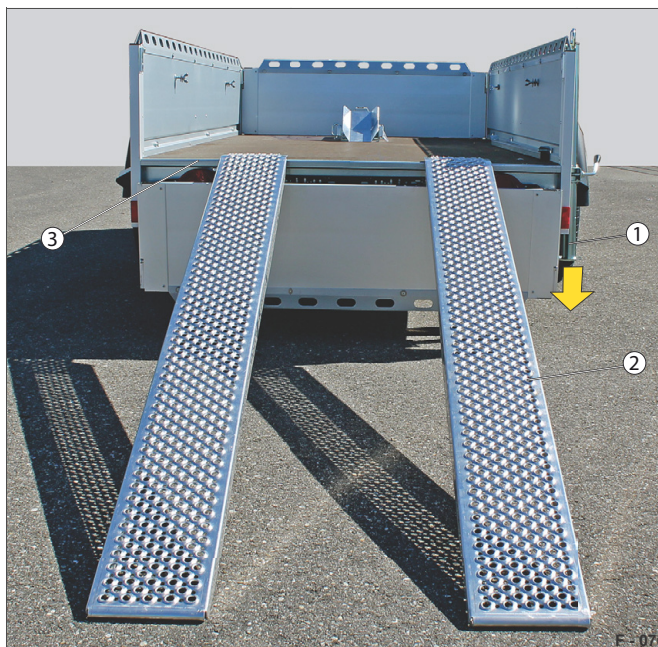

Fig. 73 Safety during operation
- Supports (Fig. 73 /1) are positioned to provide support - stability is ensured.
- Ramps, e.g. track ramps / drive-up ramps (Fig. 73 /2) are positioned at the track width of the vehicle to be loaded.
- Ramps are secured against sliding off the edge of the cargo bed (Fig. 73 /3).